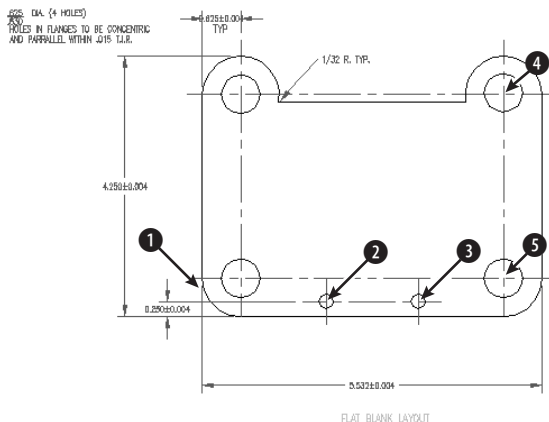

Figure 15-35: The tension arm needs some additional dimensions.
2. Save the file as *ab15-05.dwg* in your AutoCAD Bible folder. This is a tension arm for a commercial dryer, as shown in Figure 15-35. ORTHO and OSNAP should be on. Set running object snaps for endpoint, intersection, and center. The Dims layer is current. If the Dimension toolbar is not visible, right-click any toolbar and choose Dimension.
4. Choose Linear Dimension from the Dimension toolbar. At the Specify first extension line origin or <select object>: prompt, choose the endpoint at ❶ in Figure 15-35. (If necessary, press Tab until you see the endpoint tooltip.) At the Specify second extension line origin: prompt, choose the intersection at ❷. At the Specify dimension line location or [Mtext/Text/Angle/Horizontal/Vertical/Rotated]: prompt, choose an appropriate location above the bottom-most dimension.
6. Choose Linear Dimension from the Dimension toolbar. At the Specify first extension line origin or <select object>: prompt, choose the intersection at ② in Figure 15-35. At the Specify second extension line origin: prompt, choose the intersection at ②. At the Specify dimension line location or [Mtext/Text/Angle/Horizontal/Vertical/Rotated]: prompt, pick the endpoint object snap at the right side of the previous dimension's dimension line in order to align the two dimensions.
10. Choose Linear Dimension from the Dimension toolbar. At the Specify first extension line origin or <select object>: prompt, choose the intersection at 4 in Figure 15-35. At the Specify second extension line origin: prompt, choose the intersection at 5. At the Specify dimension line location or [Mtext/Text/Angle/Horizontal/Vertical/Rotated]: prompt, pick an appropriate location to the right of the model.